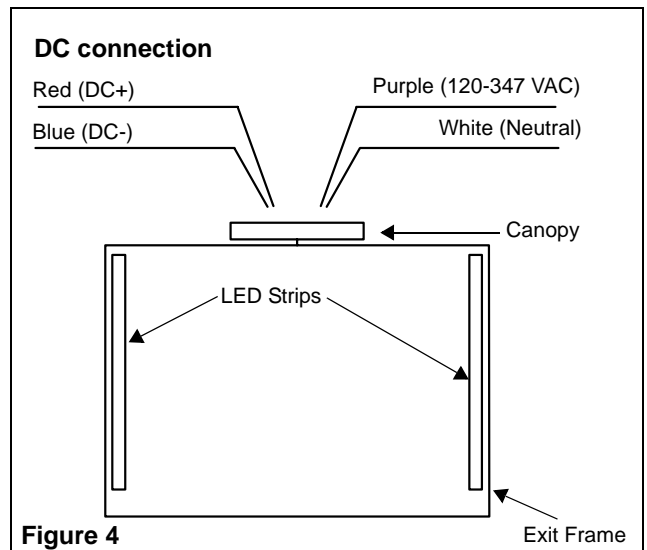

Figure 4
5. Make the proper connections. On the standard universal model, our unit accepts an input voltage of 120 VAC to 347 VAC (see fig. 4).
Refer to fig. 4 for AC & DC wiring.